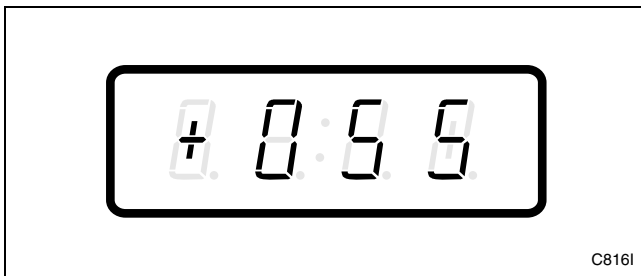

Figure 196
3. Press the DELICATES (+) or the COLD (-) keypad to scroll through the programmable options until “+055” appears in the VFD. Refer to *Figure 196*.